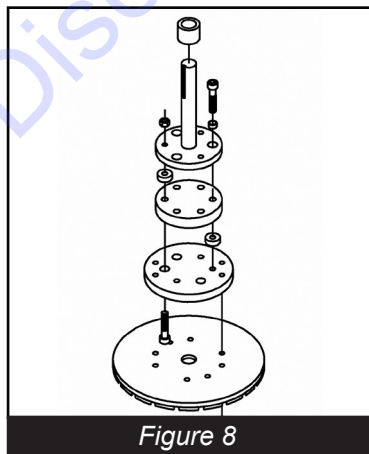

Figure 8
- **Rigid Head** can be used on uneven expansion joints, high spots, joint curls and bridge decks, removing coatings and grinding rough concrete surfaces. Use with a vacuum or water for dust control but not the same time. (Figure 8)
- Each new machine is shipped with a RIGID HEAD (FLEX HEAD OPTIONAL) 10"/255 mm factory balanced disk. It is important to maintain the coupling to which the disk is attached. A worn coupling, damaged bearings or a bent shaft will cause the grinding discs to wear unevenly. (Figure 8 rigid head assembly & 9 flex head assembly.) It is important to note FLEX HEAD for smooth flat surfaces, RIGID HEAD for buckled, bumpy or rough surfaces.